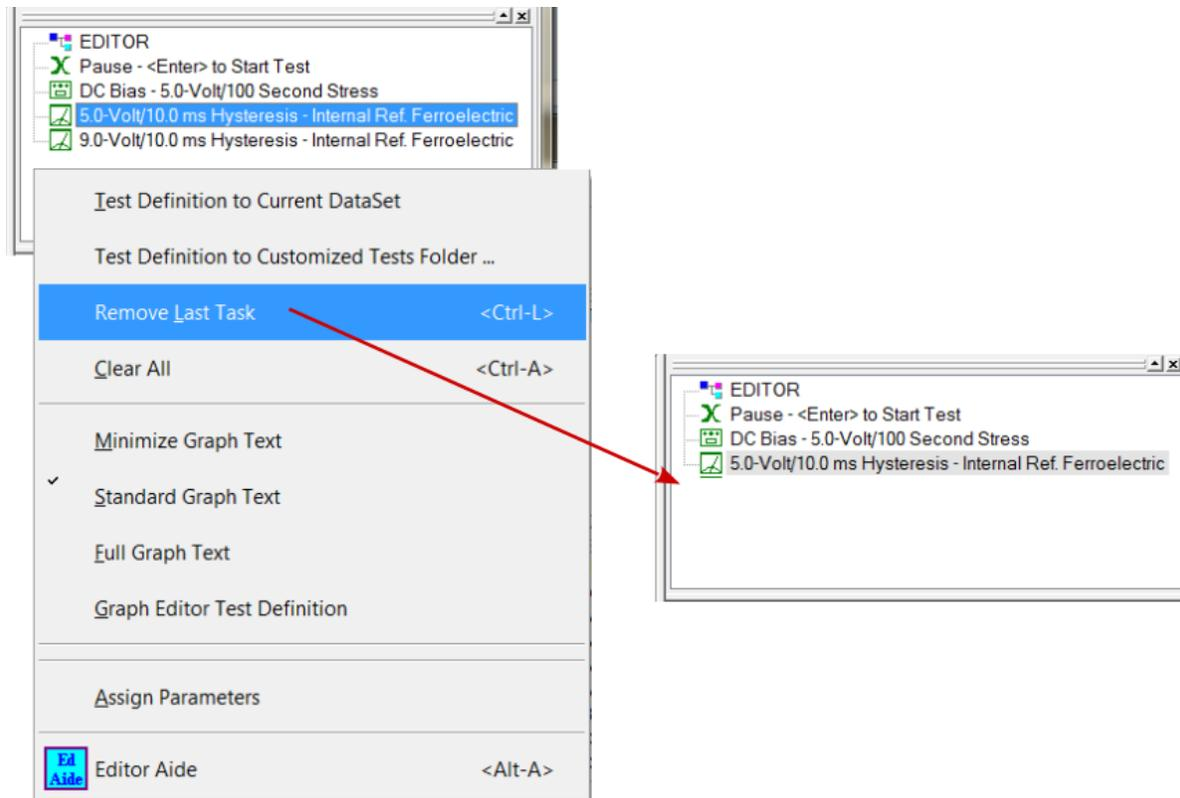

Figure 6 – EDITOR "Remove Last Task" Operation.
Another method of saving data from Tasks executed in QuikLook is to export their data using plotting tools discussed elsewhere. A more efficacious method for exporting is provided directly within Vision. An *Export* button has been added to the QuikLook results dialog as in **Figure 6**.
4. **Archive.** This is a repository for all previous executions of the CTD or earlier manifestations of the CTD (**Figure 6**). It consists of a number of Executed Test Definitions (ETDs). Each ETD takes the name of the CTD that was active when the ETD was created. To resolve duplicate name issues, a serial value is appended to the ETD name and separated from it by a “.”. The serial value begins at 0 and is incremented indefinitely until the CTD is renamed, at which time it is reset to 0. Each ETD contains two subfolders labeled “Experiment Design” and “Experiment Data”. The Experiment Design folder contains a duplicate of the CTD that was active when the ETD was created. The “Exper-